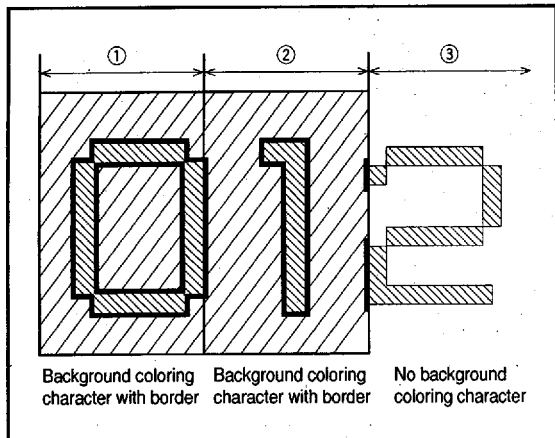

Fig. 44 Notice of character background color function
**2 :** When the characters (1) and (3) in Figure 44 have the dots which are displayed adjoining a character (2) in Figure 44) whose display type is the background coloring with border, the border of the adjoining characters (1) and (3) in Figure 44) ; bear no relation to the display type ; are displayed in the background area (2) in Figure 44).